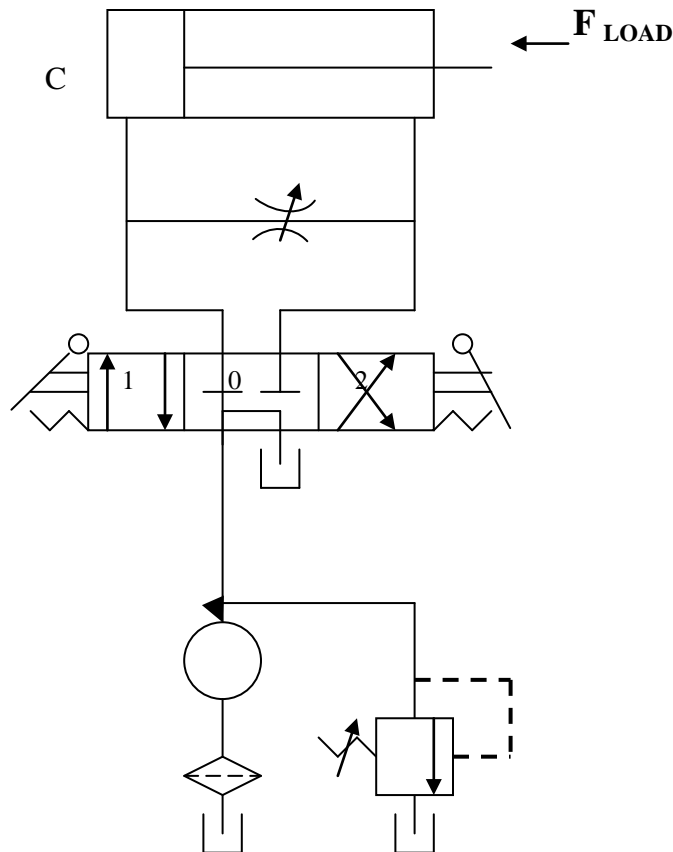

Fig 5.18. **Bleed – Off Circuit.**
3. **Bleed – off Circuit** : In this type of speed control, the flow control valve is placed between the pressure line and return line . Thereby, it controls the fluid by bleeding off the excess not needed by the working cylinder. Fig 5.18 shows the bleed-off circuit.